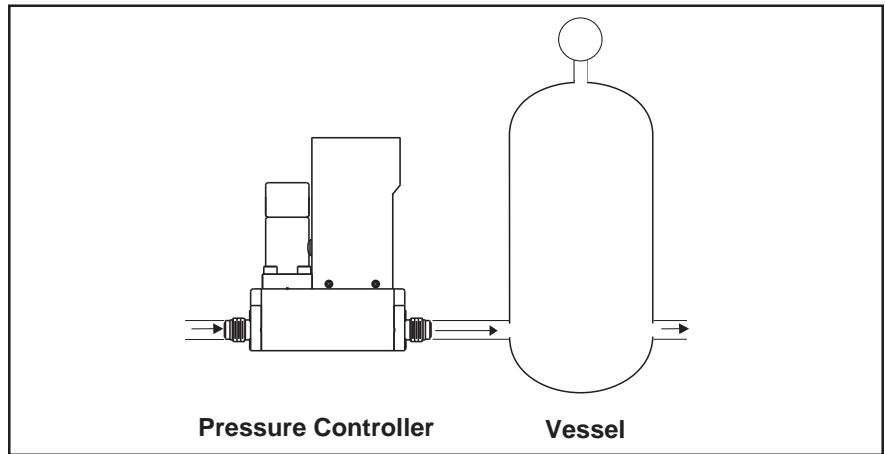

Figure 1-6 Model SLA7820 Controller Upstream
The “upstream pressure regulation mode” is shown in Figure 1-6 places the pressure controller at the outlet of the pressure vessel. The pressure in the process upstream of the controller will be constant independent of downstream variation. Pressure measurement and control takes place at the outlet side of the pressure vessel.
**Upstream Controller Mode** - The controller is set to maintain the upstream process pressure constant, independent of downstream pressure or flow variations (ref. Fig. 1-6). This is factory configured.